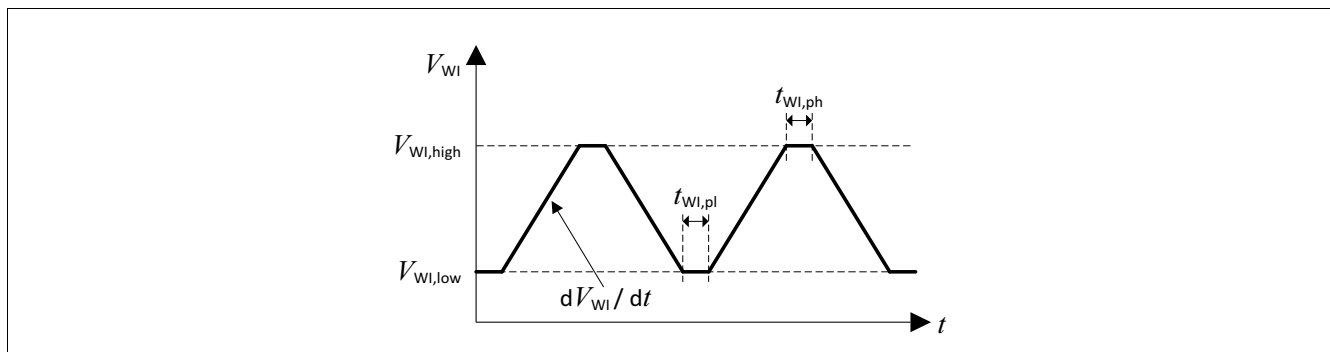

Figure 10 Test Pulses Watchdog Input WI
The watchdog is triggered by a falling edge at the watchdog input pin “WI”. The amplitude and slope of this signal has to comply with the specification (Table “Watchdog Input WI” on Page 29). For details regarding test pulses, see Figure 10 “Test Pulses Watchdog Input WI” on Page 28.
2) For details on applied test pulse, see Figure 10